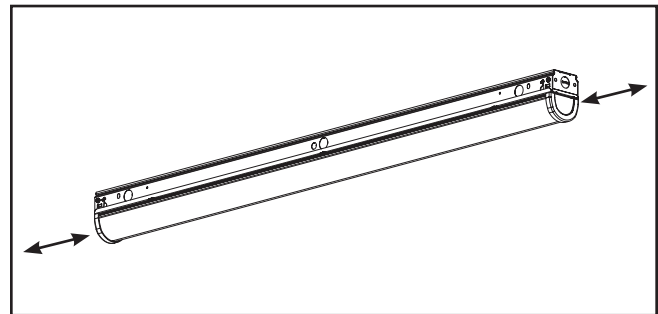

Figure 4.
4. Verify the lip of the lens is engaged in all (8) eight clips per 4ft section.
5. Center the lens of the luminaire as needed. (Figure 4.)